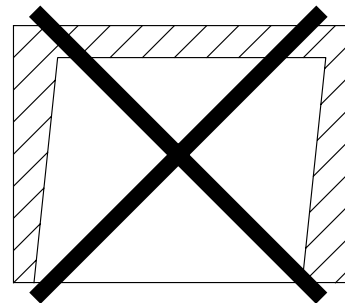

Figure 4. Opening Must Be Rectangular, Not a Parallelogram
- 2.4. Check diagonal measurements to insure that opening is a true rectangle, not just a parallelogram (**Figure 4**).